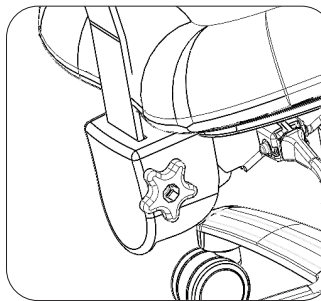

Figure 5
1. Loosen knob and insert the backrest mount by sliding it through the slots in both the shroud and the control plate (Figure 5)
2. Secure the backrest: Tighten knob at the desired backrest height (Figure 5)